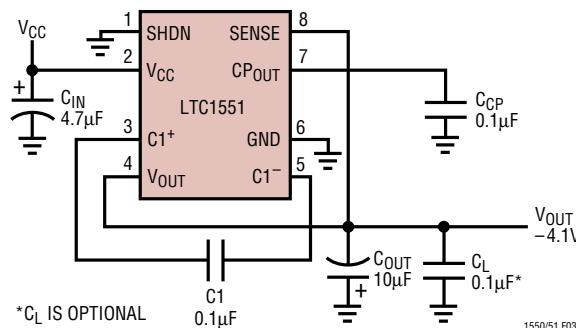
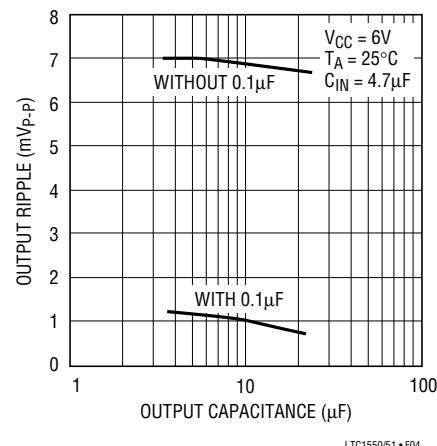
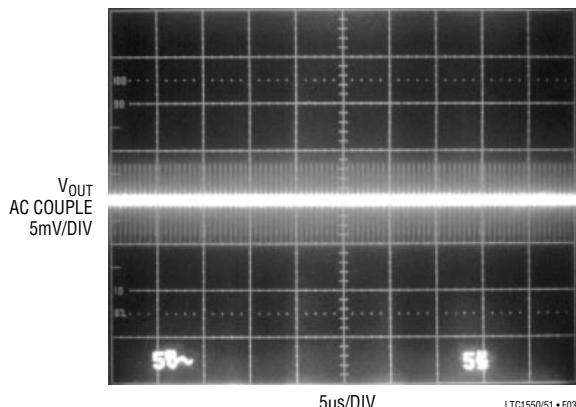

Figure 2. Output Ripple Test Circuit
Figure 3. Output Ripple vs Output Capacitance
Figure 4. Output Ripple with  $10\mu\text{F}$  Tantalum Capacitor
**Load Transient Response (See Figure 2, VCC = 5V)**
**Line Transient Response (See Figure 2, IL = 10mA)**
**Output Spectrum (See Figure 2, COUT = 10µF)**
Figure 3 shows the effect of using different output capacitor values on LTC1550/LTC1551 output ripple. These curves are taken using the circuit in Figure 2, with  $C_{IN} = 4.7\mu\text{F}$  and  $I_{LOAD} = 5\text{mA}$ . The upper curve shows the performance with a standard tantalum capacitor alone and the lower curve shows the tantalum capacitor in parallel with a  $0.1\mu\text{F}$  ceramic capacitor. As a general rule, larger
Figure 3 shows a marked decrease in peak-to-peak output ripple when a  $0.1\mu\text{F}$  ceramic capacitor added in parallel with the tantalum output capacitor. The additional ripple with the tantalum output capacitor alone is mostly very high order harmonics of the  $900\text{kHz}$  clock, which appear as sharp "spikes" at the output. The energy in these spikes is very small and they do not contribute to the RMS output voltage, but their peak-to-peak amplitude can be several
millivolts under some conditions. A garden variety  $0.1\mu\text{F}$  ceramic capacitor has significantly lower impedance at the spike frequency than even a large tantalum capacitor, and helps eliminate most of these left-over switching spikes that the tantalum capacitor leaves behind. Figure 4 and 5 show scope photos of the output of Figure 3 with and without the additional ceramic capacitor at the output.
switches, causing the output linear regulator to momentarily stop regulating.  $C_{IN}$  should be mounted as close to the LTC1550/LTC1551 as possible and its value should be significantly larger than  $C1$ . Tantalum capacitors with low ESR generally provide adequate performance. Figure 6 shows the LTC1550/LTC1551 peak-to-peak output ripple vs  $C_{IN}$ , taken using the test circuit in Figure 2 with  $I_{LOAD}$  set at 5mA.  $C_{OUT}$  is a 10 $\mu$ F in parallel with a 0.1 $\mu$ F ceramic capacitor.